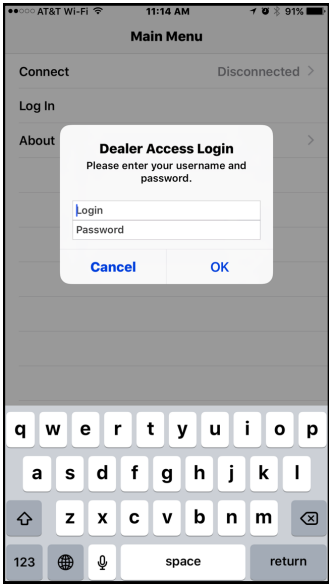

Figure 1
2. The Dealer Access Login window will appear on the screen. This login information is for a certified therapist/technician. Select Cancel to exit the window. (Figure 1)